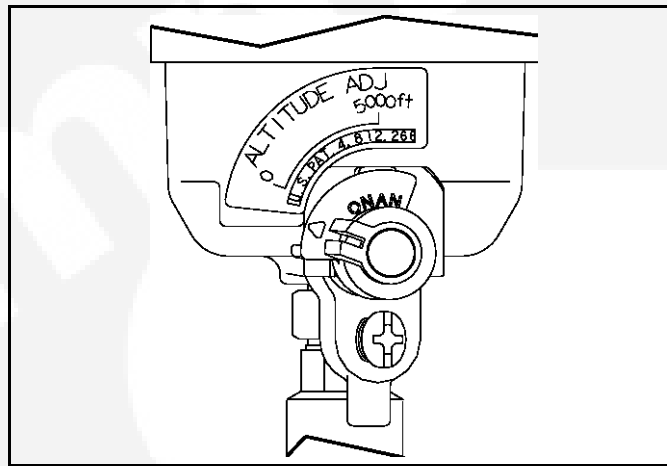

FIGURE 8. ALTITUDE ADJUST KNOB (SERIES HGJAB GASOLINE ONLY)
4. If so equipped, reset the carburetor for altitude (Figure 8).
5. If so equipped, reset the carburetor for altitude (Figure 8).
Series HGJAB Only - For best fuel economy and generator set operation between 0 and 5,000 feet, reset the carburetor for the current altitude (Figure 8). Altitude may be found on road maps and road signs. For the effect of altitude on maximum power, see [Bad link: /opt/dzd/dzd_prog/prog_docato/docato_4.9.1/docato/work/temp/dzd_temp/topleaf/aae42609-9e64-4447-a6f5-f9b48c25af92/en-us/.new_components/generator_set/powerversusaltitude/powerversusaltitude_hgjaa_b.xml](#).